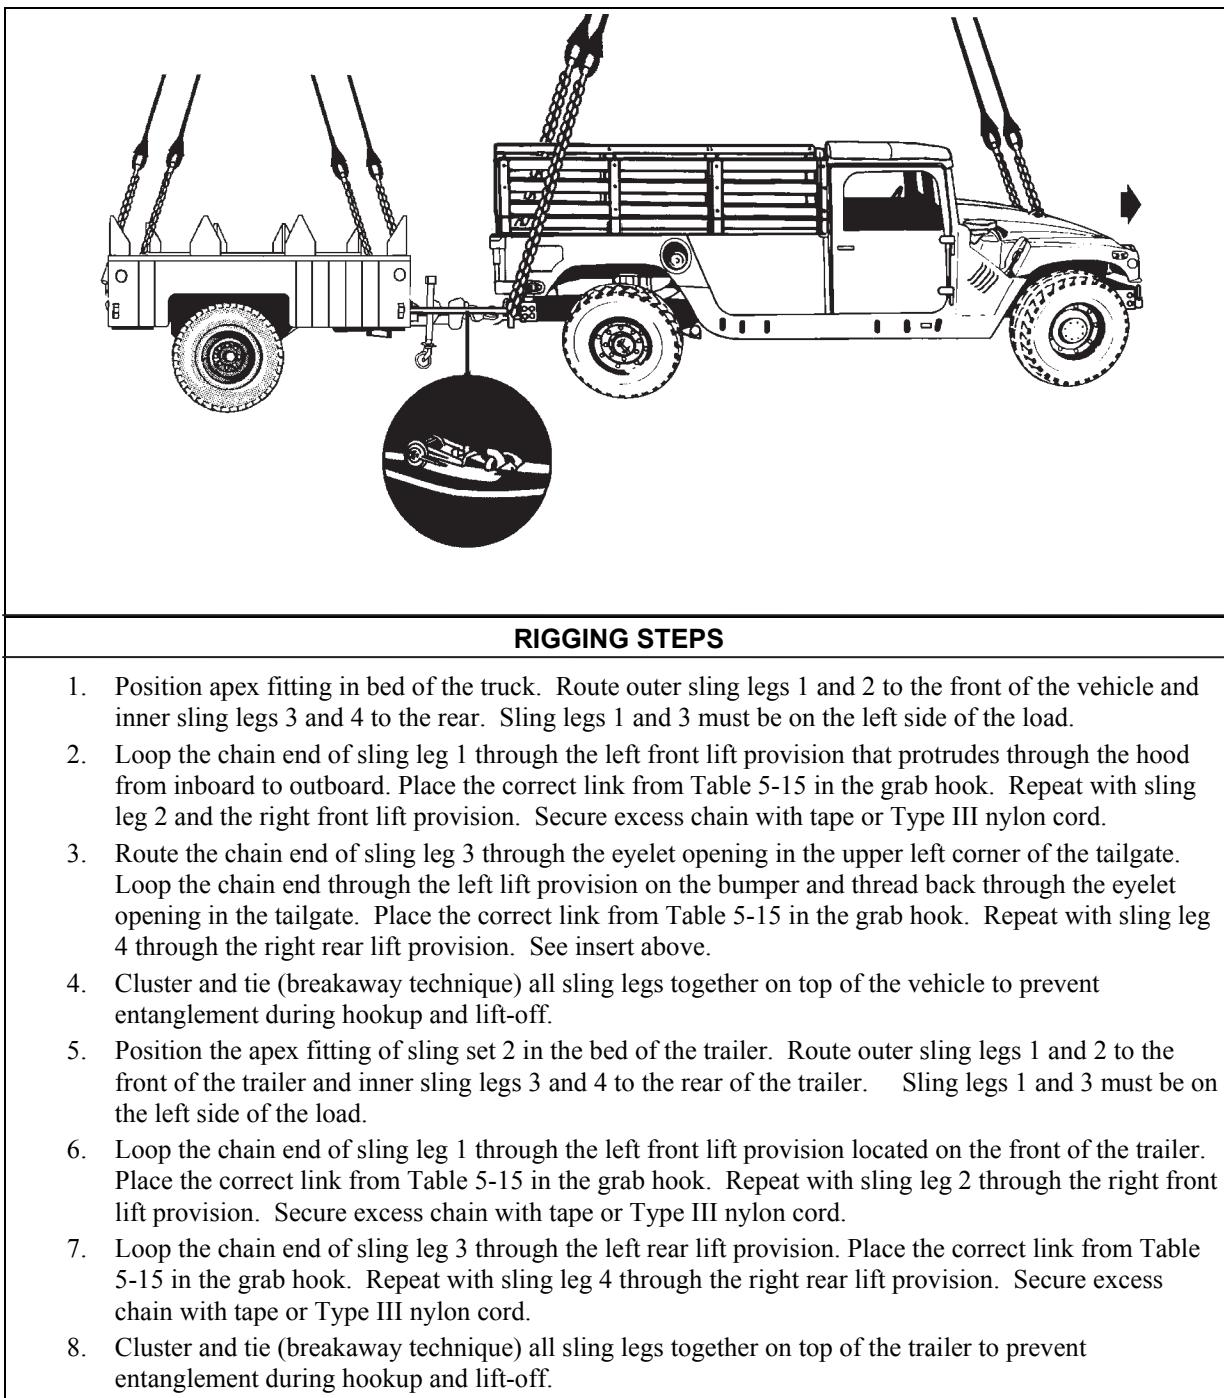

Figure 5-15. M1097 and High Mobility Trailer
- **Rigging.** Rig the load according to the steps in Figure 5-15.